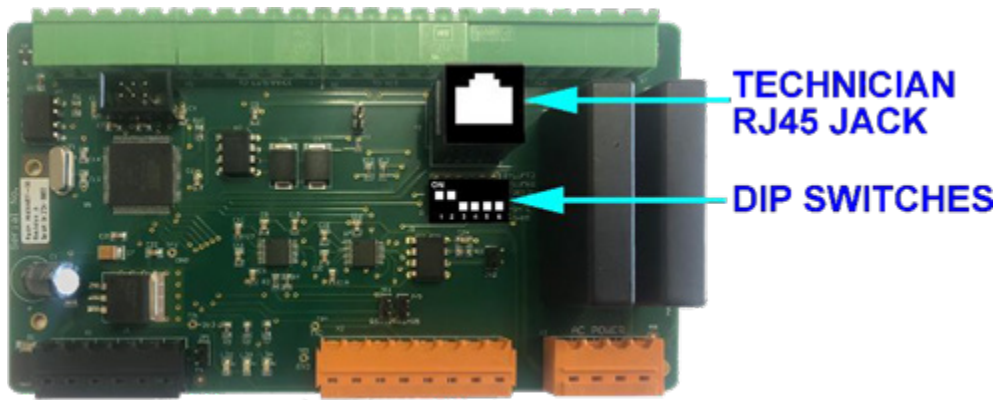

Figure 6. Technician Jack and DIP Switches (Main Control Board)
1. Set the DIP switches as shown in Figure 6 to access the Model 5000 Background Luminance Sensor.